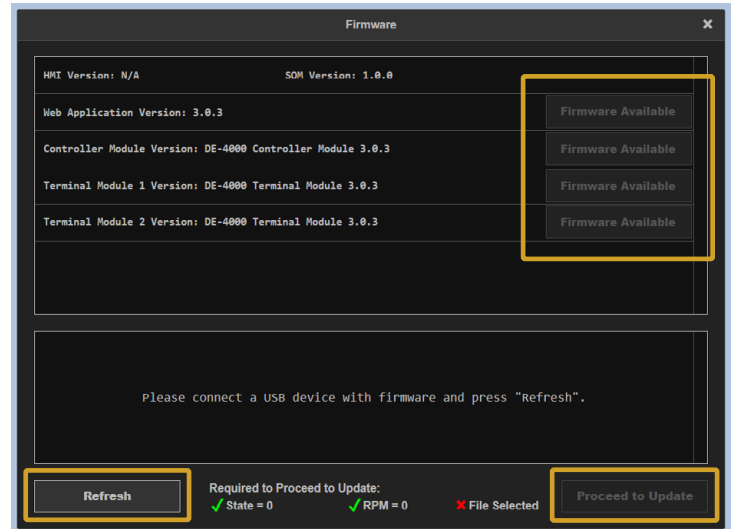

Figure 3
4. Press the **Refresh** button in the bottom-left corner. See *Figure 3*. The **No Firmware Available** button will change to **Firmware Available** for each module that has an update file on the flash drive.
1. Select a firmware file by pressing the **Firmware Available** button to the right. See *Figure 3*.
3. When all conditions have been met, the **Proceed to Update** button will become available. See *Figure 3*. Press the button to begin the update.